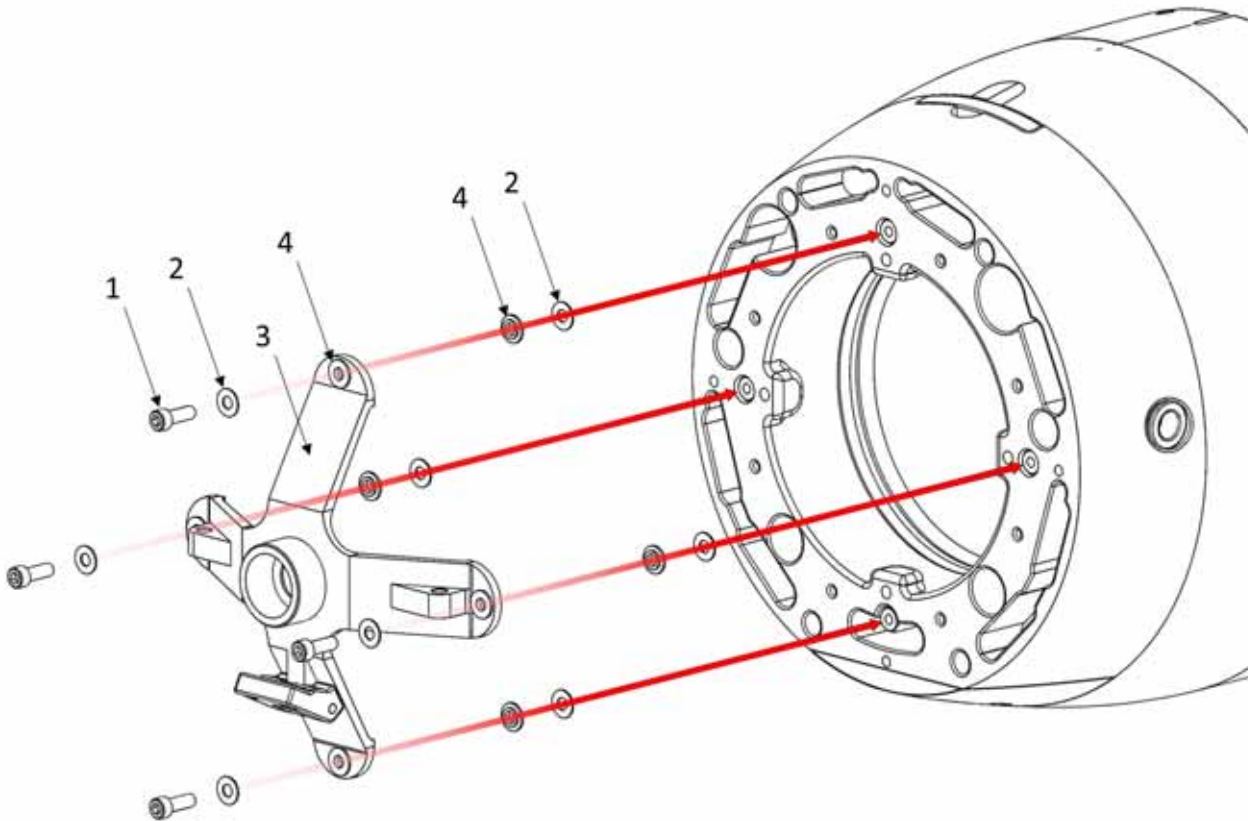

Figure 2-17 Recovery spool base.
1. Remove the single screw (Figure 2-17, Item 1).
2. Remove the three screws (Figure 2-17, Item 2).
3. Remove the recovery spool base (Figure 2-17, Item 3).
4. Remove the four spacers (Figure 2-17, Item 4).
1. Position the recovery spool base (Figure 2-17, Item 3) on four spacers (Figure 2-17, Item 4).
2. Install the three screws (Figure 2-17, Item 2).
3. Install the single screw (Figure 2-17, Item 1).